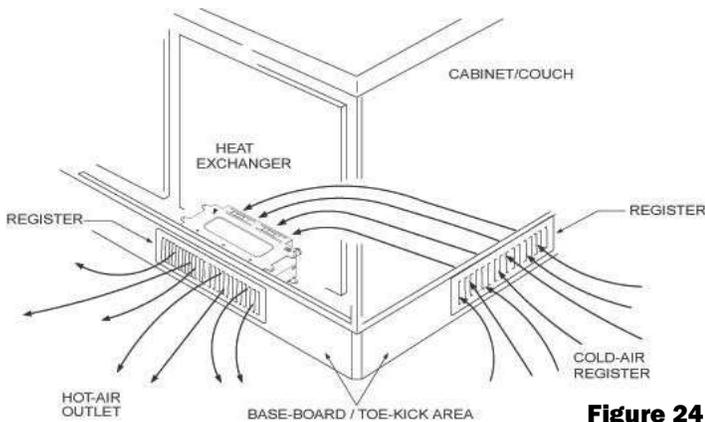

Figure 24
1. Cut out a 2.5" H x 10" W (7cm x 26cm) opening for each heat exchanger outlet and cold-air return grate as shown in Figure 24.